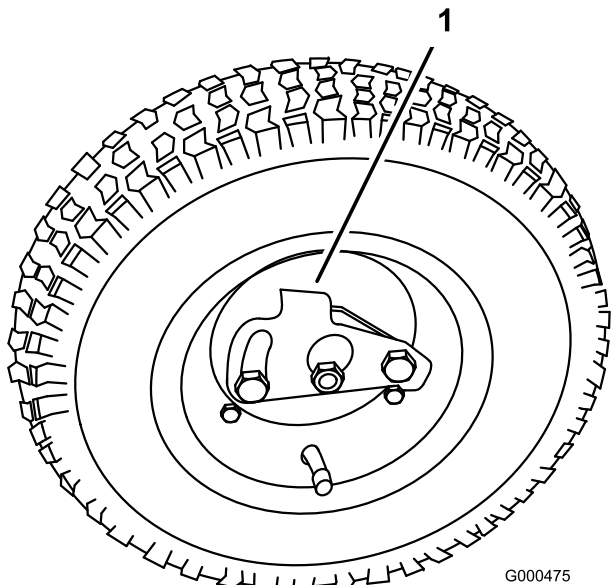

Figure 10
2. Press wheel locking clip toward the center of wheel and slide wheel onto hex shaft (Figure 10).